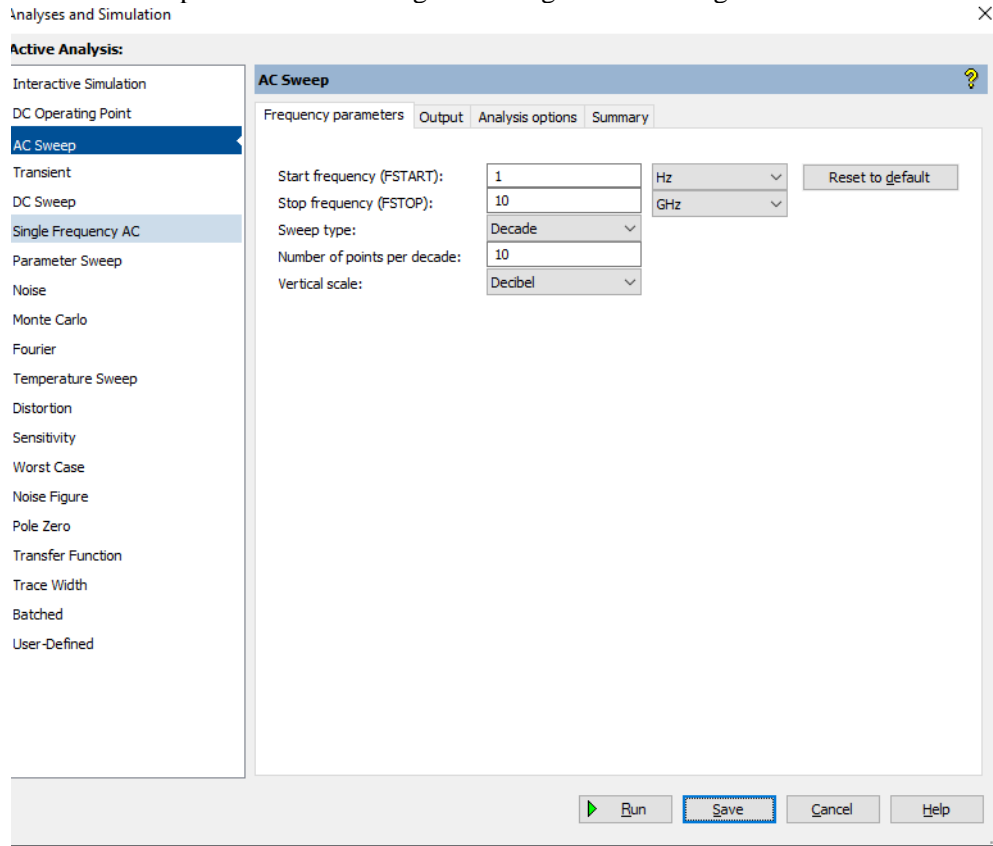

Figure 3: AC sweep setting
4. Run an AC Sweep on the circuit using the settings shown in Figure 3.
3. Run an AC Sweep with the same settings as 2.1 (see Figure 3)